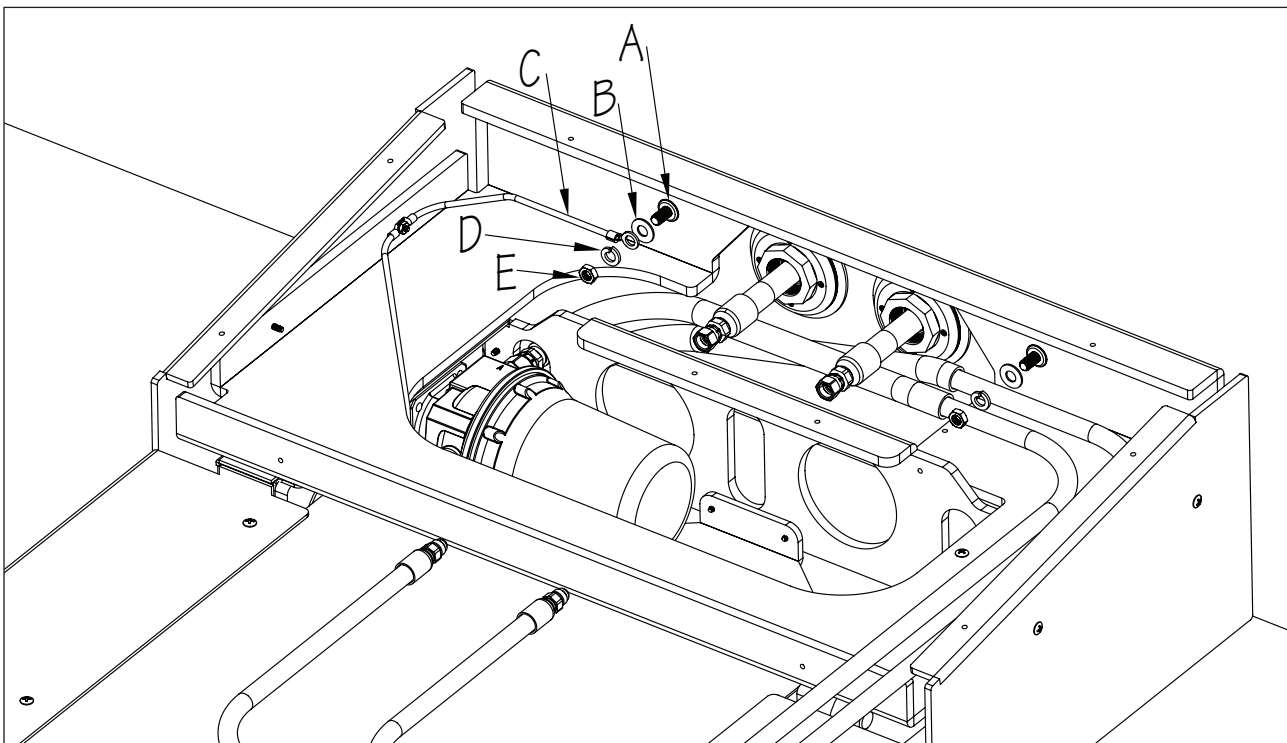

Fig. 14
- 2b. Install a Sealing Washer (A) onto each Threaded Stud. The stainless steel side of washer **MUST** face out. Install a Flat Washer (B) onto each stud. On the left stud, install the Bonding Wire (C). **IT IS CRITICAL THAT THE BONDING WIRE IS INSTALLED.** Secure Fastlane Tread using Lock Washers (D) and Jam Nuts (E). Tighten nuts until the unit is fully seated against the pool wall. Tighten another half turn. **DO NOT OVERTIGHTEN** (Fig. 14).